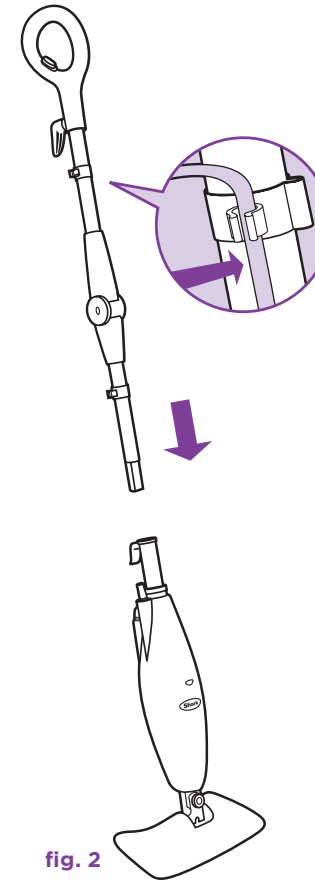

fig. 2
- 3** Insert the assembled handle piece into the steam mop base. Push the tube base together until you hear a click. (**fig. 2**)
- ⚠ IMPORTANT:** Unplug the **Light & Easy™** Steam Mop before filling the water tank with water. (fig. 2)